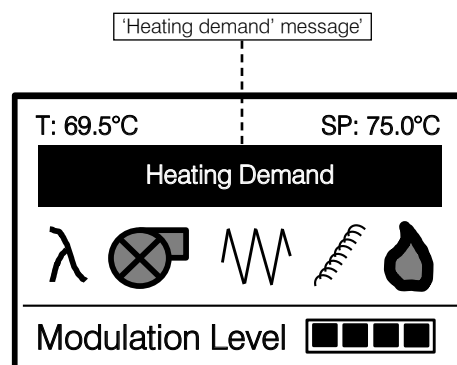

Figure 12: LCD 'heating demand' message
- First, ensure that the electrical supply to the boiler is switched on and that the electrical isolator switch is set to ON (I). Refer to Section 5.
- Then check that the heating system controls (programmer and room thermostat) are operating and are calling for heat. This will be indicated by the remote Grant logo indicator (located inside your house) being illuminated and the 'Heating Demand' message being displayed on the boiler control panel LCD screen. Refer to Figure 12.
- Set the heating (CH) and hot water (HW) functions on your programmer to 'Timed'. The boiler will now operate during the 'ON' periods set on the programmer.